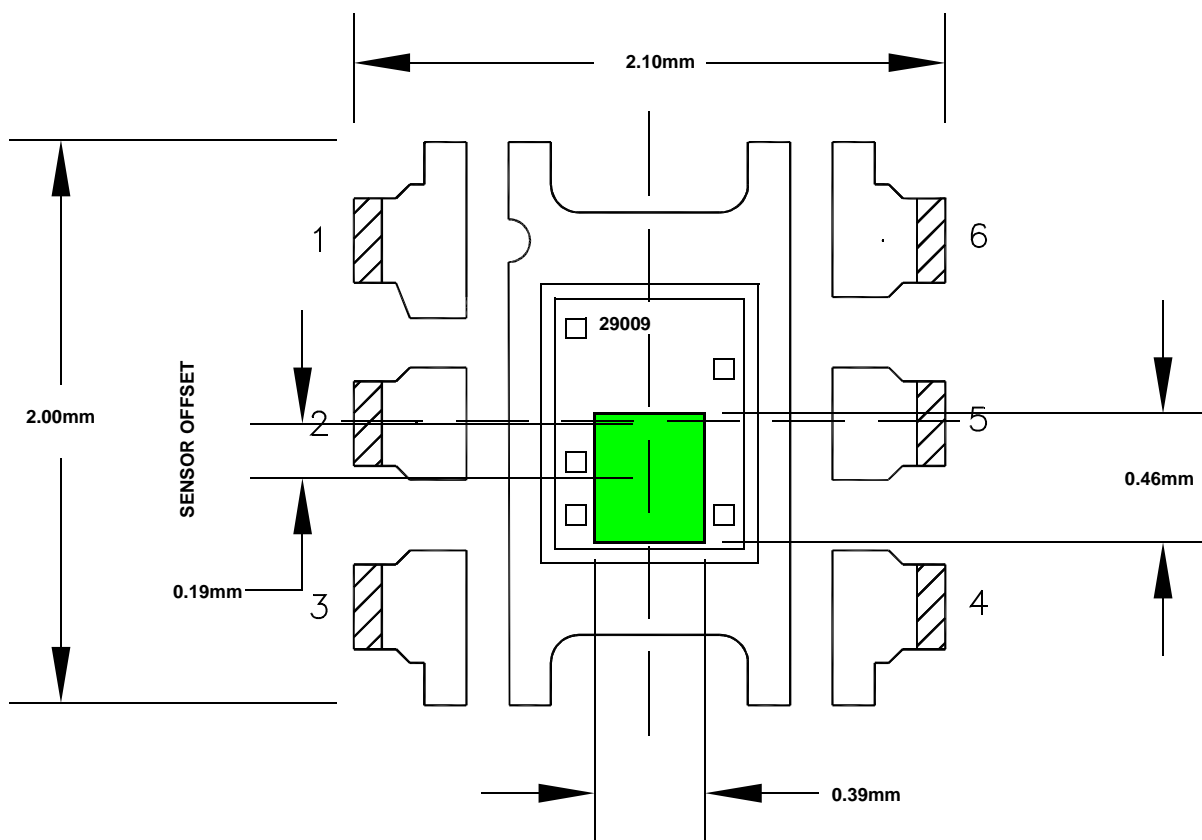

FIGURE 18. 6 LD ODFN SENSOR LOCATION OUTLINE
The green area in Figure 18 shows the optical sensor location outline of ISL29009. Along the pin-out direction, the center line (CL) of the sensor coincides with that of the packaging. The sensor width in this direction is 0.39mm. Perpendicular to the pin-out direction, the CL of the sensor has an 0.19mm offset from the CL of packaging away from pin-1. The sensor width in this direction is 0.46mm.